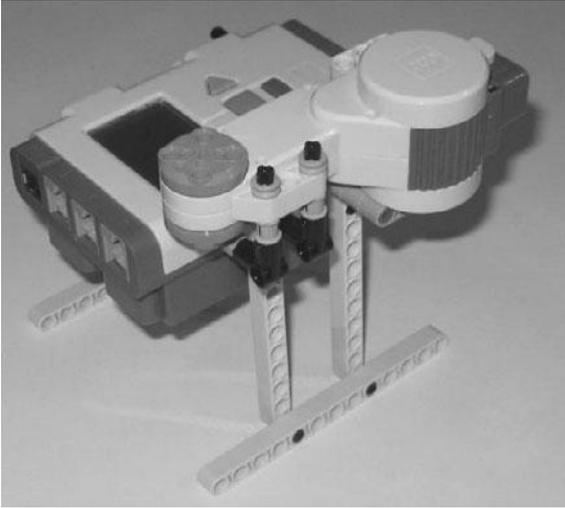

Figure 12.17
Step 3: Finish securing the servo motor to the robot by capping the two 4M cross axes at the top of the support struts with two half-bushings, as shown in Figure 12.17.